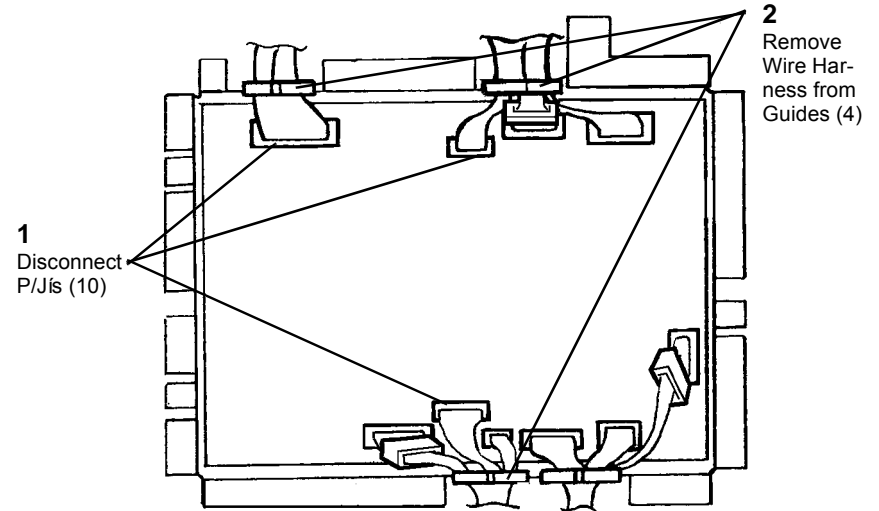

Figure 2 Disconnecting P/J's
3. Disconnect P/J's (Figure 2).
NOTE: When installing, keep the Core (Figure 2) inside the PWB Box.